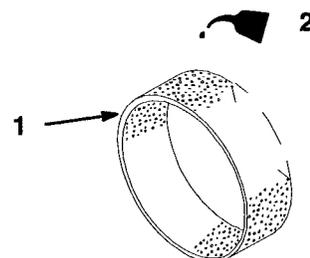

Figure 16
- C. Put one or two ounces of oil on the element (Fig. 16). Squeeze the element to evenly distribute the oil.